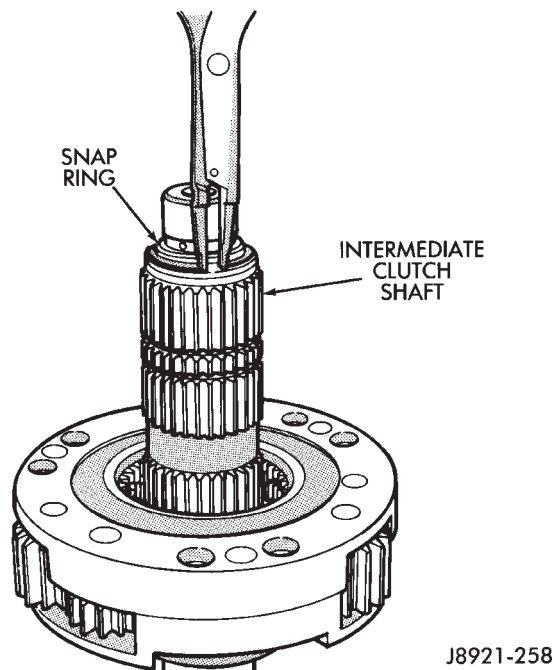

Fig. 71 Installing Clutch Shaft Snap Ring
(13) Install clutch shaft snap ring (Fig. 71).